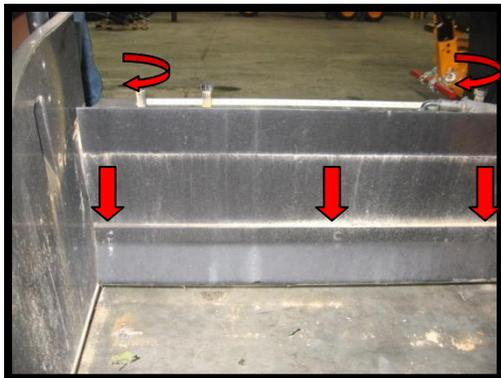

Fig. 8
11. Loosen extension guard bolts and adjust "bull nose" adjusters up or down to achieve a level relationship between extension "bull nose" and main screed. Fig. 8